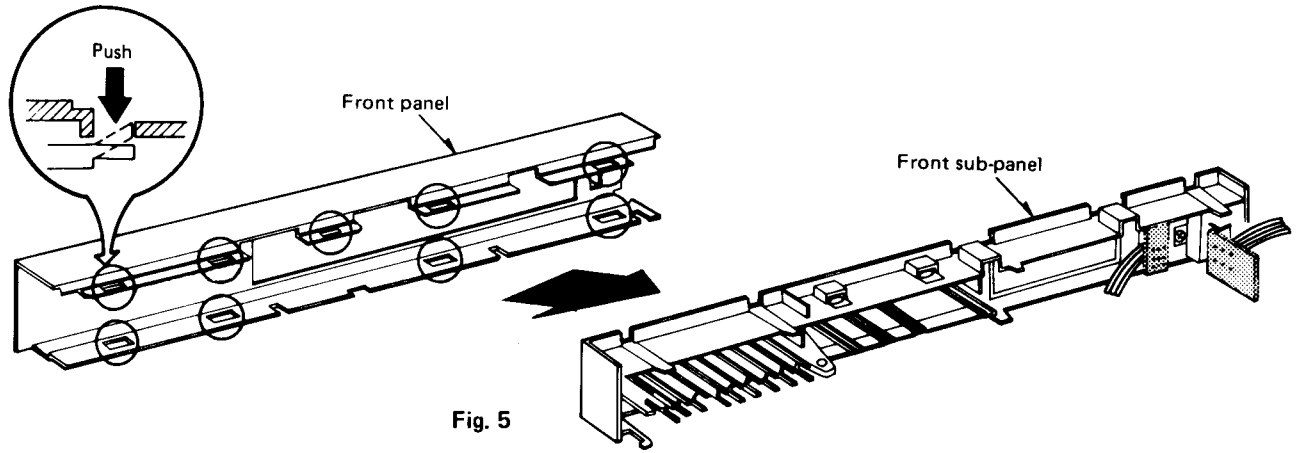

Fig. 5
3. The claws projected (at 9 portions) from the front sub-panel are engaged with the front panel. Disengage the claws from by screwdriver or the like to remove the front sub-panel. (See Fig. 5)